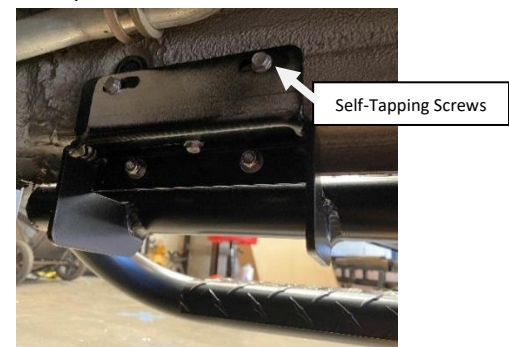

Figure 4: Installing the Self-Tapping Screws
5. On the front bracket hold the nerf bar up so the flat mounting surface is flat against the inside wall of the van; Use the self-tapping sheet metal screws to fasten the flat plate to the inside wall of the van as shown in **Figure 4**. You should use 2 sheet metal screws per bracket. If you are having trouble getting it started you can drill a 3/16" Pilot hole first